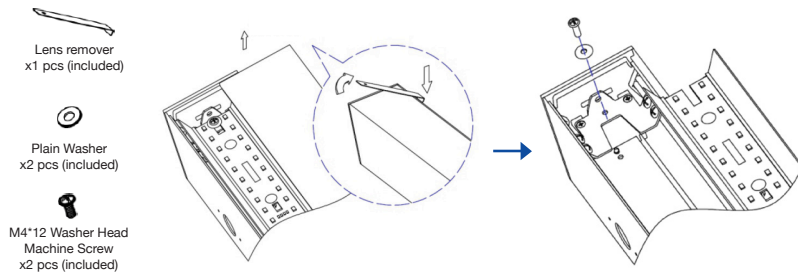

Fig. 7.1
1. Remove lens and LED reflector strip. (Fig. 7.1)